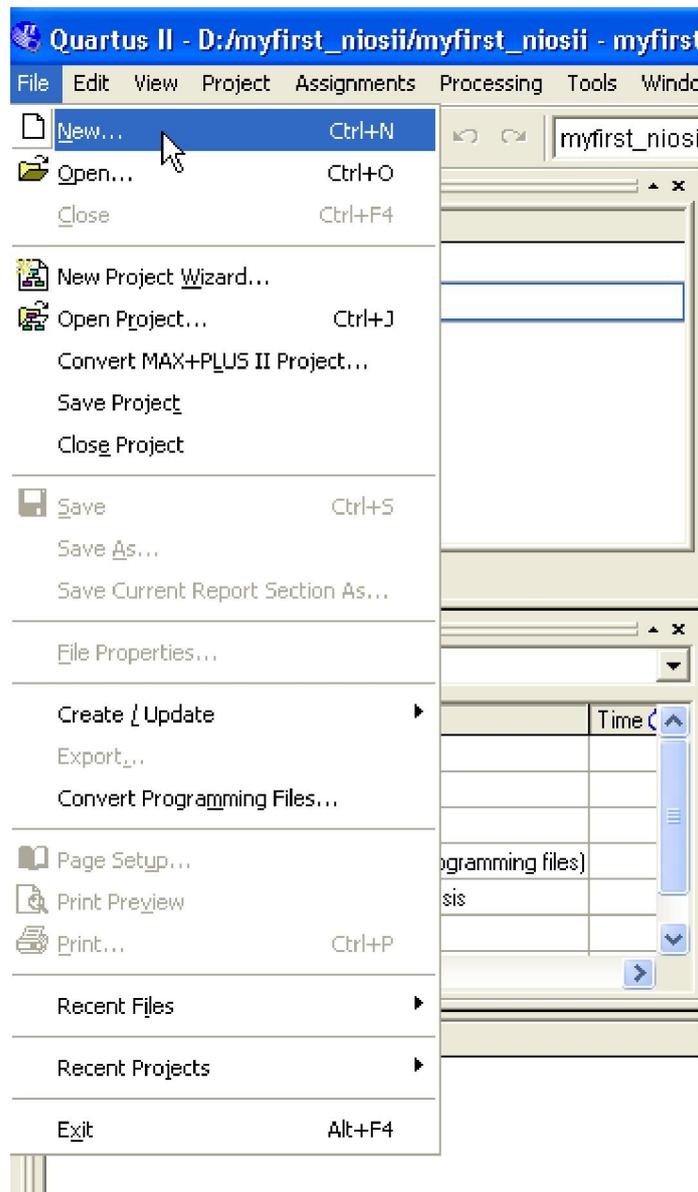
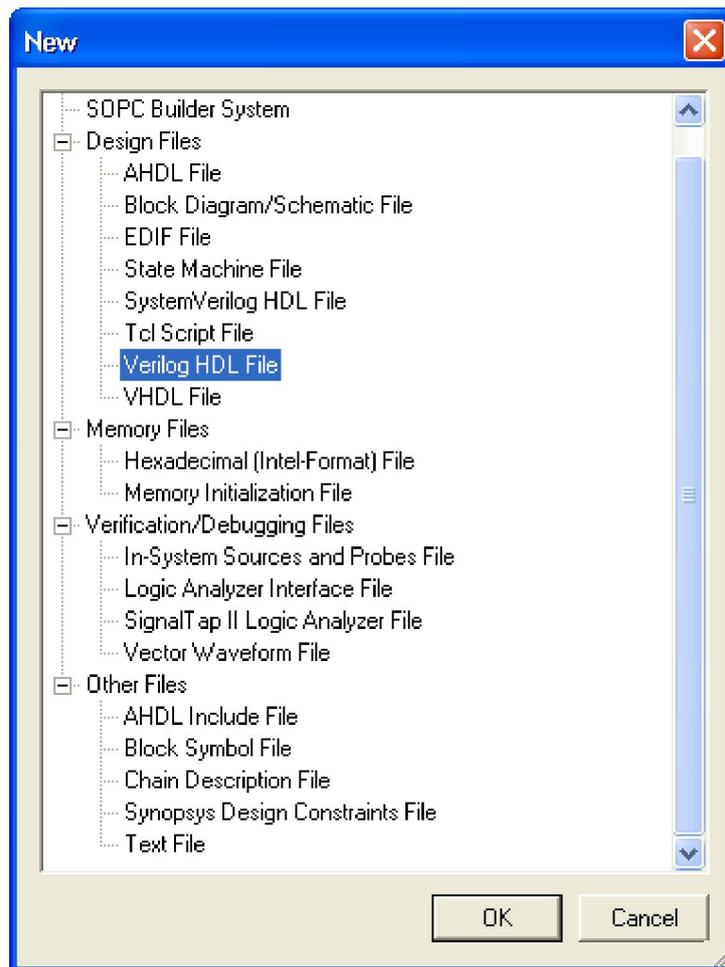

Figure 1-40 New Verilog file
Figure 1-41 New Verilog File
25. Choose **File > New** to open new files wizard. See **Figure 1-40** and **Figure 1-41**.